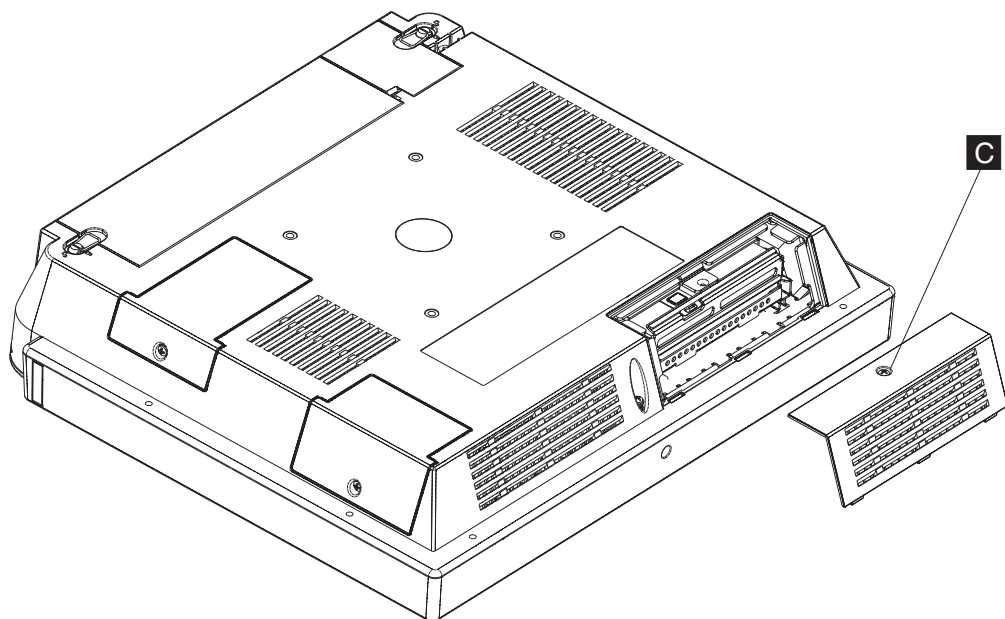

Figure 11. Opening the HDD door
1. Loosen the captured screw (**C** in Figure 11) to remove the HDD door.